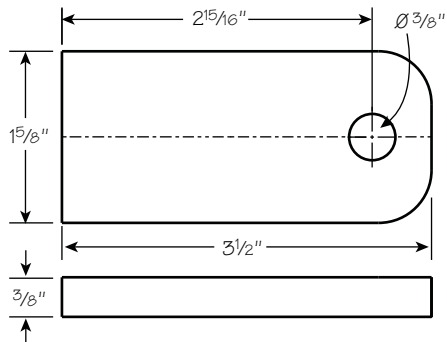

Figure 15: Lever cap layout.
14. Draw a line along the center of the lever cap. Make a mark at $2\frac{15}{16}$ ", as shown in **Figure 15**. Use a center punch or scratch awl to dimple the location.